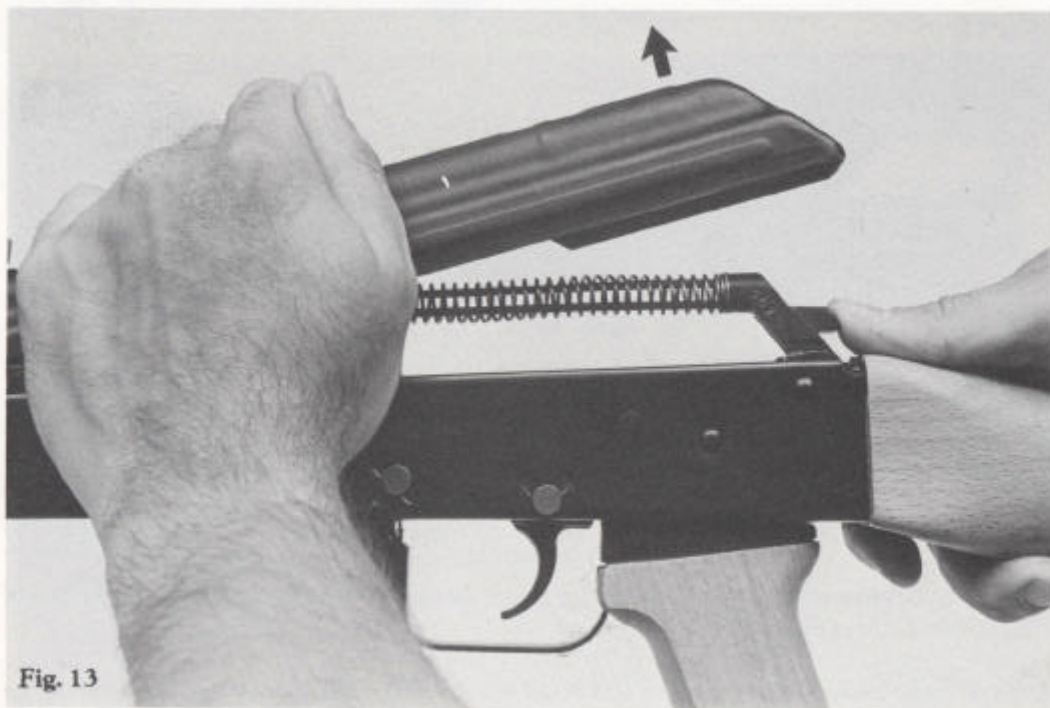

Fig. 13
2. At the same time, grasp the rear portion of the receiver cover and lift it up and rearward off the receiver (Fig. 13).